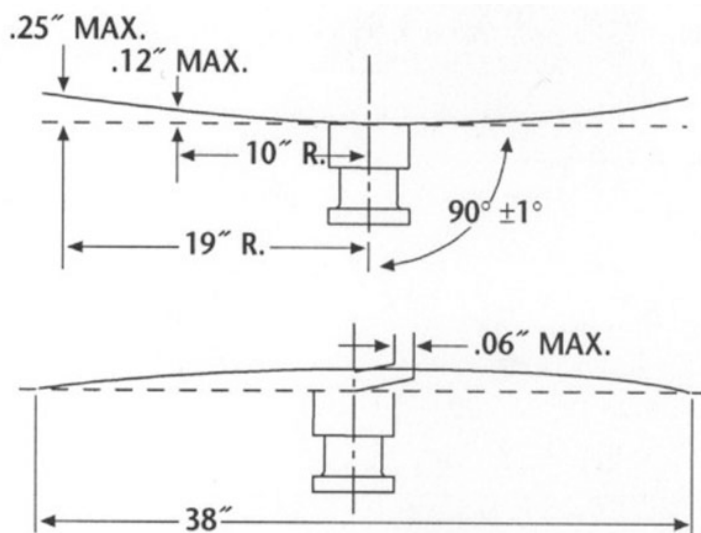

Figure 2-39. Coupler plate wear specifications.
The King Pin is the main component in the upper coupler assembly (fig. 2-39) on a semi-trailer. Inspection and maintenance of this component is just as important as its mating component, the fifth wheel. It has the same annual inspection requirement as the fifth wheel component. The King Pin can come in two diameters (2 and 3.5 inches). You must be sure of which diameters you are dealing with in order to properly conduct an inspection. The following are the areas you will need to inspect:
- Coupler plate flatness—Use a 48-inch straight edge to check for flatness in all directions. Replace the plate if flatness exceeds the specifications as shown in figure 2-39.